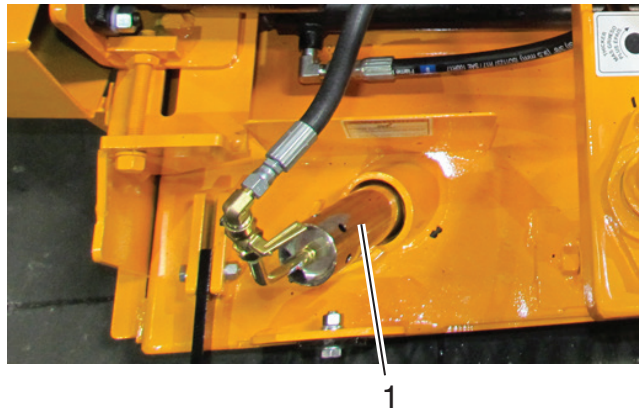

Figure 4-12. Screed Burner
4. Pull burner from screed, point away from screed and Maintainer. Use ignitor hose and burner valve to light the burner. Insert burner back into holder. Check exhaust port in extension of screed. If heat is not exiting, clear a blockage in the screed. See **Figure 4-12** and **Figure 4-1**.